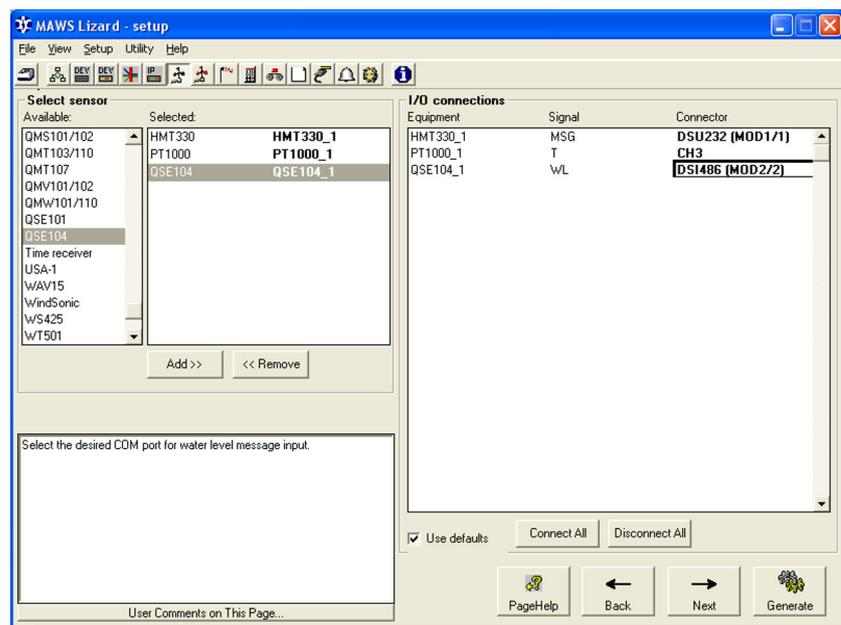

Figure 38 Equipment View: Absolute Shaft Encoder Connected to Optional DSI486 Module
1. Go to the **Equipment** view of Lizard Setup Software and select QSE104 from the **Available** list, see Figure 38 on page 81.